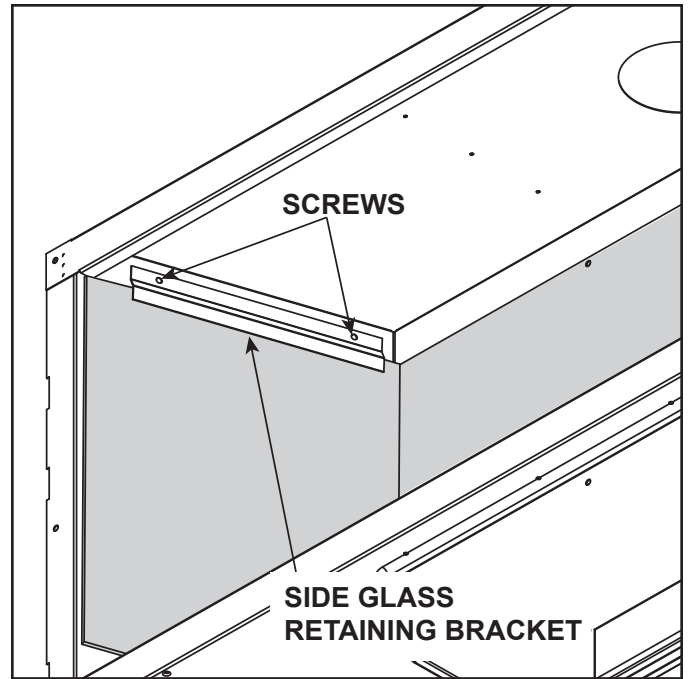
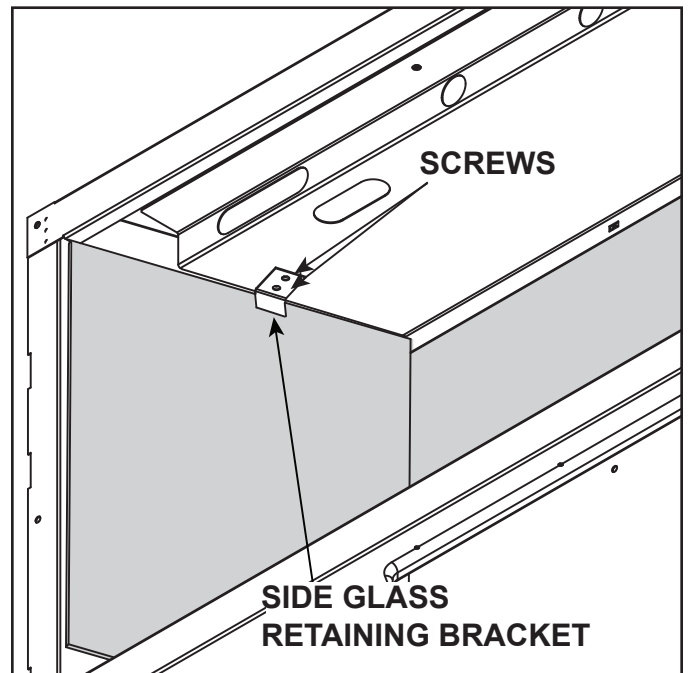

Figure 5. Placement of Side Glass Bracket - 32 Inch Models
Figure 6. Placement of Side Glass Bracket - 36 and 42 Inch Models
6. Install side glass retaining bracket, one on each side, with the screw provided. Note that the size of the bracket depends on the model size. See Figure 5 (32 inch models) and Figure 6 (36 and 42 inch models). Repeat for opposite side panel.